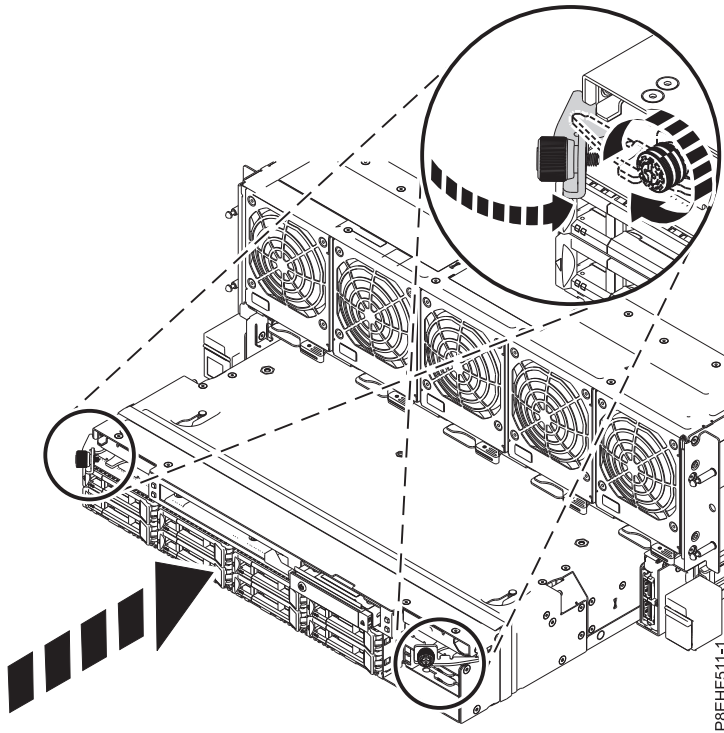

Figure 14. Replacing the RAID assembly
5. Slide the RAID assembly into the system. Rotate the latches in and tighten the thumbscrews, as shown in Figure 14.